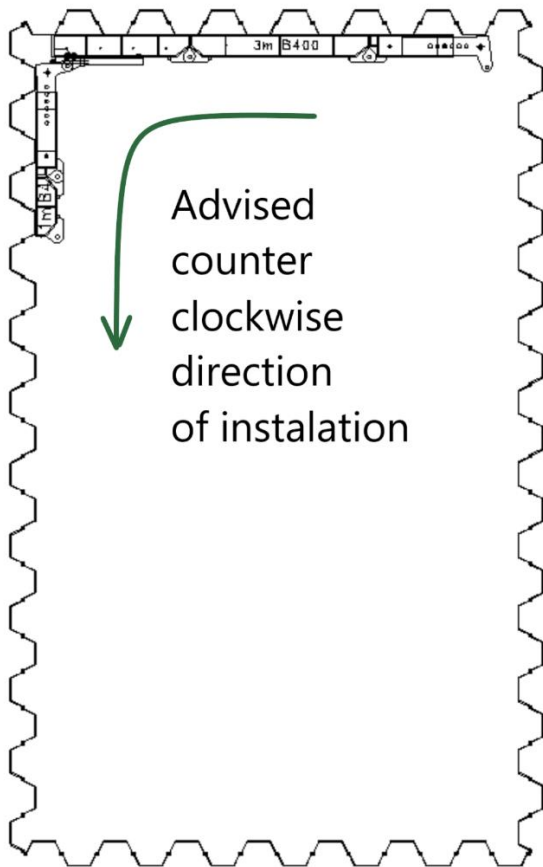

Fig. 7
If it is possible start installation from one of the short legs (Fig.7)
**If it is possible install legs in counter clockwise direction (Fig.7)**